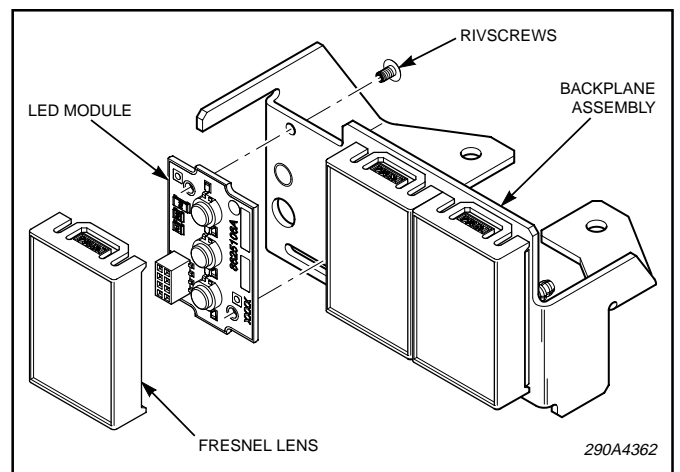

Figure 2.
- e. See figure 2. Remove and discard the Rivscrews retaining the LED module to the backplane. Remove the LED module.